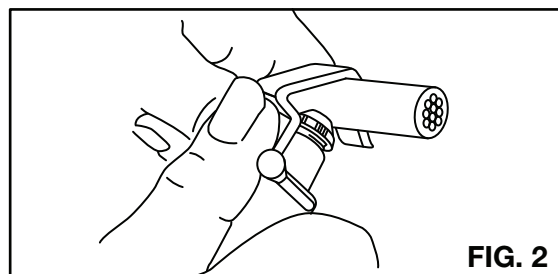

FIG. 2
2. Determine the length of insulation to be removed and mark the point where the cut should be made. Push cable support bracket up with thumb, see Fig.2. Insert the cable between "V" of support bracket and insulation cutting blade. Locate cable so that the mark is directly above the cutting blade.